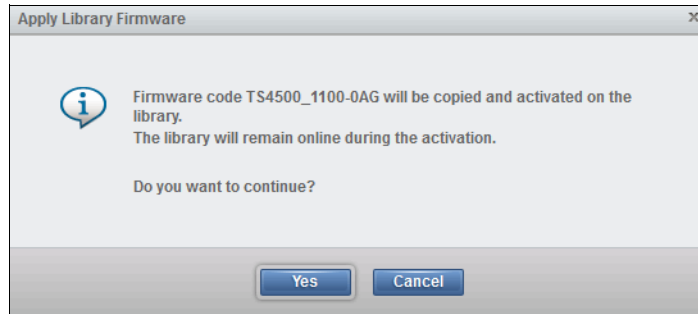

Figure 4-168 Firmware update confirmation
3. The Apply Library Firmware window opens. Click **Yes** to continue, as shown in Figure 4-168.